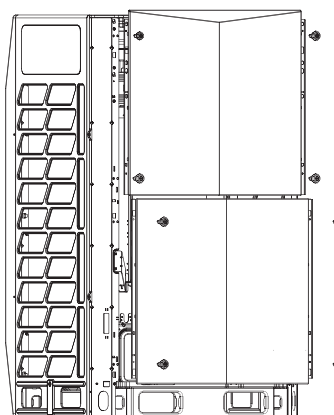

Fig. 4-18
2. Dismantling the upper panel: dismantle 4 screws of the upper panel on left and right sides(Fig 4-18) and then uplift it for 3mm to remove the upper panel.